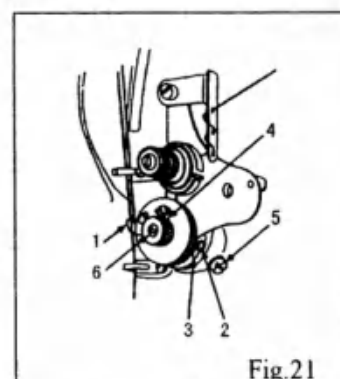

Fig.21
22.ADJUSTING THE THREAD CONTROLLER SPRING (Fig.21)